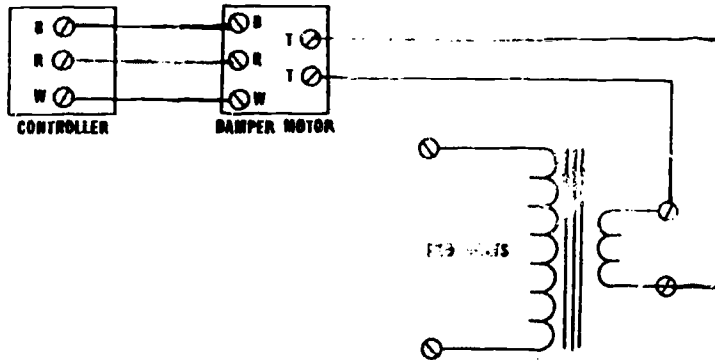

Figure 2. Control Circuit
1. Connect wires as indicated in Figure 2. (have instructor check your wiring before continuing on to the next step.)